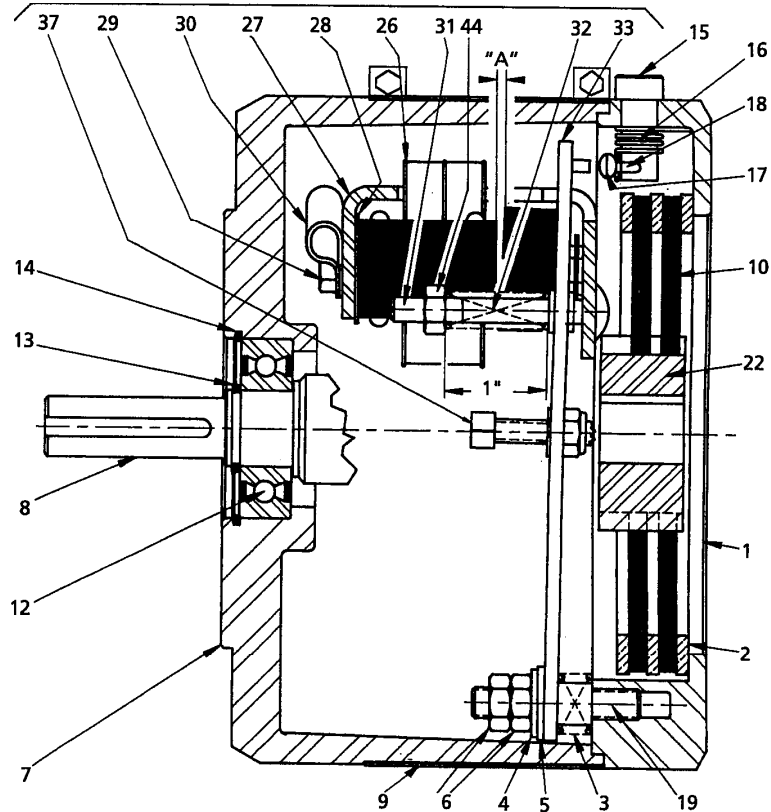

Figure 8
Numbers in parentheses refer to parts illustrated in Figures 8 thru 12.
TORQUE ADJUSTMENT (Refer to Figures 8 and 12.)
(Refer to Figures 8 and 12.)
(Refer to Figures 8, 9 and 12.)
(Refer to Figures 8, 10 and 12.)
4. Reassemble to magnet bracket (Ref. No. 27) using items (Ref. No. 31), (Ref. No. 32), and (Ref. No. 44). Reassemble operator assembly to brake bracket. Set magnet air gap "A" and set torque springs (Ref. No. 32) to 1" dimension shown in Figure 8.
MANUAL RELEASE ADJUSTMENT (Refer to Figures 8, 11 and 12.)
MANUAL RELEASE ASSEMBLY (Refer to Figures 8, 11 and 12.)
PIVOT STUD ADJUSTMENT (Refer to Figures 8 and 12.)